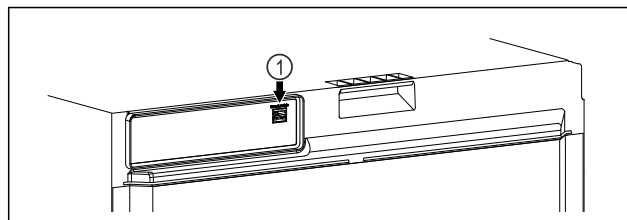

Fig. 112
- ❑ SmartModule Fig. 112 (1) has been inserted.